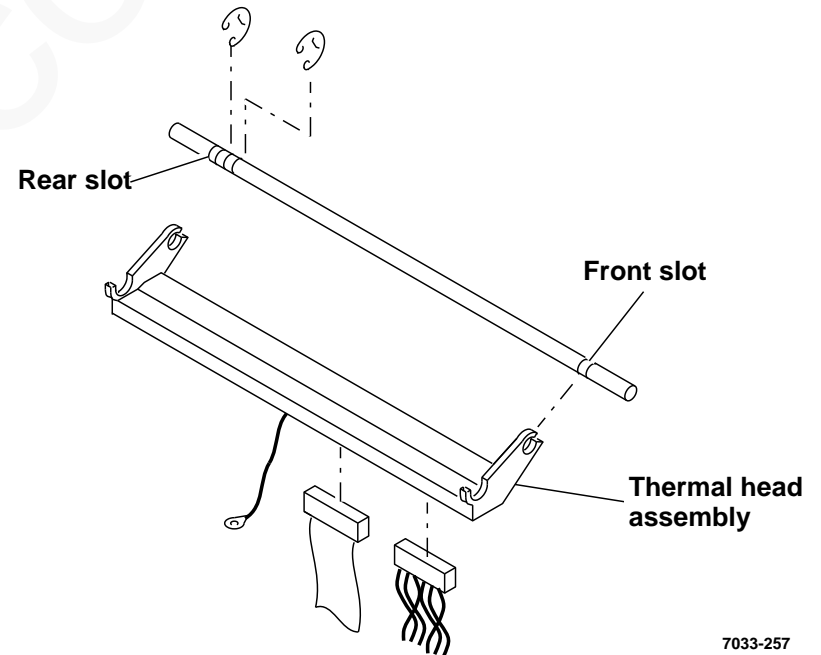

Figure 7. Thermal head removal
- e. Slide thermal head assembly to front slot in thermal head shaft and remove front of thermal head assembly from shaft (Figure 7).